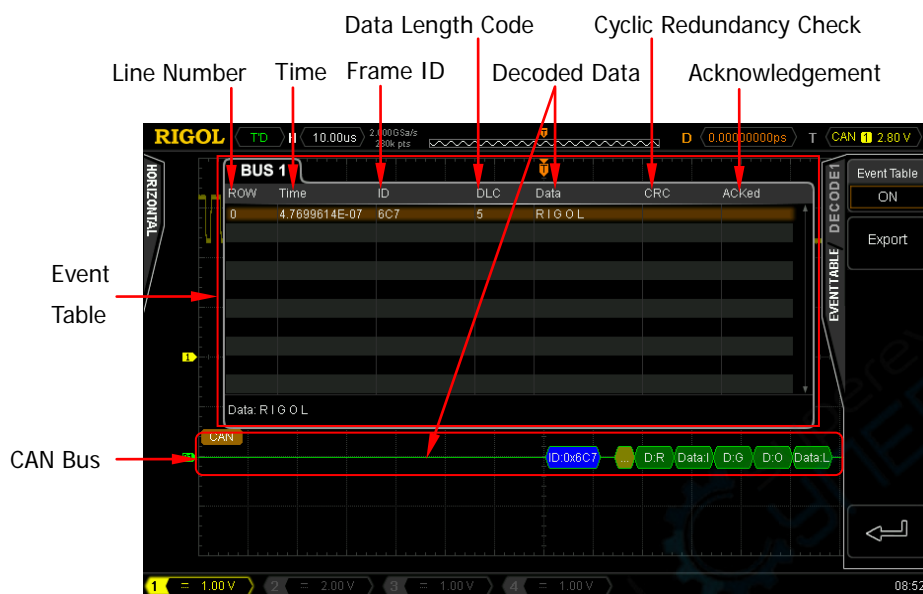

Figure 7-6 CAN Decoding
Press **BusStatus** to turn the Decode1 bus display on or off. You can also press **Decode1** to switch the current on/off status of the Decode1 display. When the bus display is turned on, the interface is as shown in Figure 7-6.
- 1) Press **Event Table** to turn on or off the event table. When the event table is turned on, the interface is as shown in Figure 7-6.